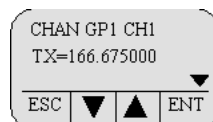

Figure 8
12. Scroll down and select "TX" and press the "ENTER" key to program the TX Frequency. *(See Figure 8)*